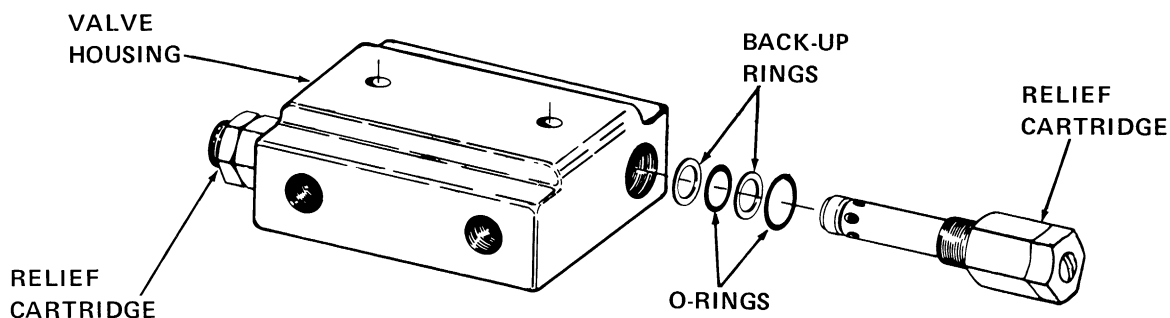

Figure 14. Swing Relief Cartridge
1. The cartridge parts are not serviced separately on this valve. The only replacement parts are the two o-rings and two back up rings indicated in Figure 14.